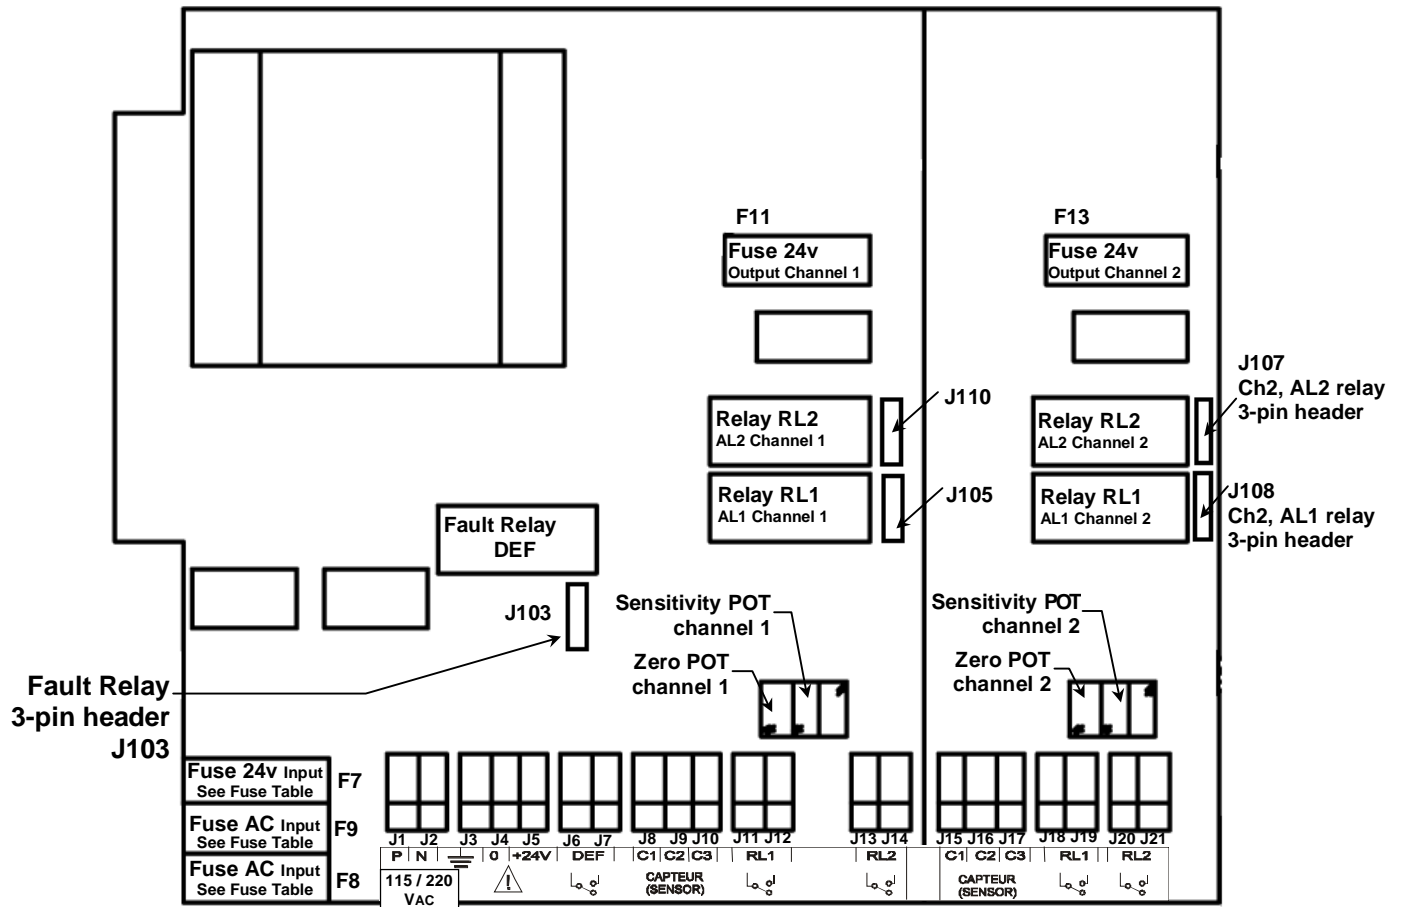

Figure 5: MX32 CONTROL Main Power and Channel Board
FIGURE 5: MX32 CONTROL MAIN POWER AND CHANNEL BOARD .....	7
Each channel of the **MX32 CONTROL** has a terminal strip to which all wiring for that channel is connected. A typical two-channel circuit board is shown in Figure 5 and wiring for this terminal is shown in Table 1.
**MX32 CONTROL** relay contacts for the first two alarm levels are on the RL, 1, RL and 2 positions of each channel terminal strip, as indicated in Figure 5 and Table 1. There are 3-pin headers for setting relays to normally open or normally closed operation. The location of these headers is indicated in Figure 5. To set the relays, place the jumpers on the position 2 & 3 pins for NO operation or positions 1 & 2 for NC operation. These jumpers are placed in the NC operation positions at the factory. See Table 1a. These relays have a maximum capacity of 2 Amp at 230 Volts.
The Fault Relay (DEF), system alarm relay contacts are on the main board, as shown in Figure 5.
3-pin header  Pin # 1 2 3 2-pin jumper	3-pin header located near associated relay: Fault relay (DEF) = J103 Channel 1 – AL1 relay = J105, AL2 relay = J101 Channel 2 – AL1 relay = J108, AL2 relay = J107 See Figure 5 for location of each 3-pin header.
Sensor/Transmitters are connected to positions C1, C2 and C3 on each channel terminal strip. Connections are shown in Table 2 for two wire S/T and Table 3 for three wire S/T. See Figure 5 for location of channel terminal strips.